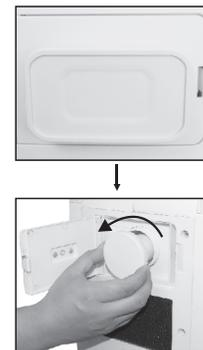

Figure 15
- ▶ Poke the filter door slowly from inner to outer near the orifice,unscrew the filter core. (Figure 15)